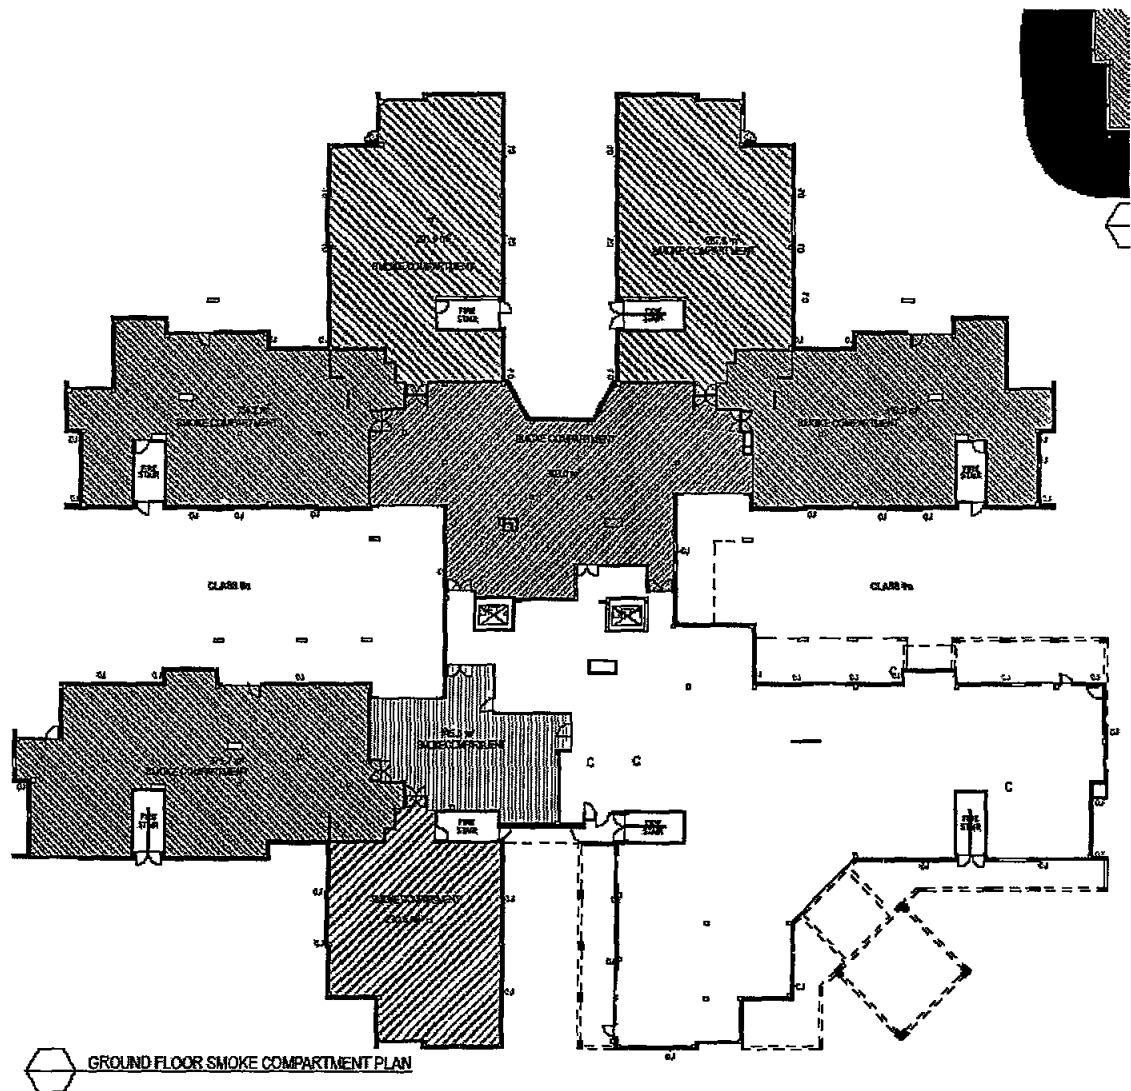

Figure 2 Ground floor smoke compartment plan
- 7 Fire and smoke compartments to comply with clause C2.5 of the BCA in the class 9c portion, including separation of north-west wing and north-east wing as shown in Figure 1 and Figure 2.